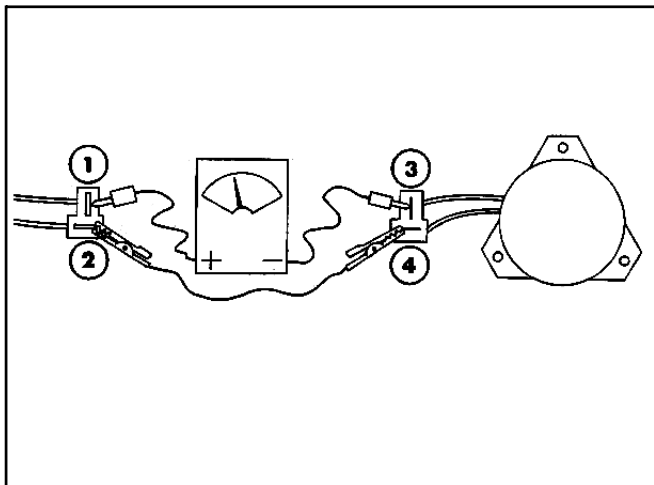

Figure 89
4. Connect the positive meter lead to the tractor terminal (1) of the clutch wire, Figure 89.
5. Connect the negative meter lead to the corresponding wire terminal (3), Figure 89.
6. Connect a short jumper lead from terminal (2) to terminal (4), Figure 89.